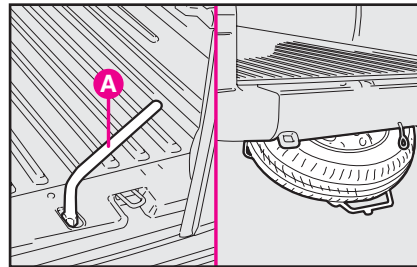
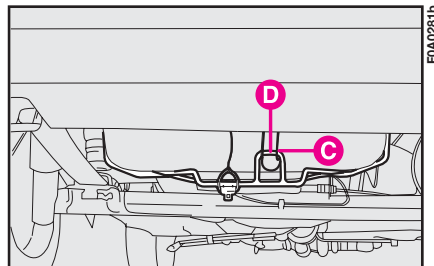
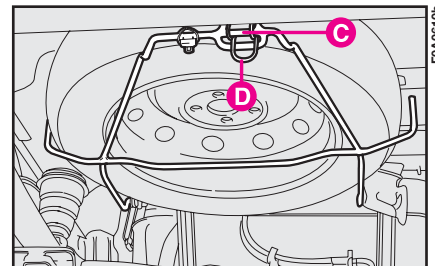

fig. 6
fig. 15
fig. 16
6) Loosen the bolt fastening the spare wheel with the wrench **A-fig. 6**.
2) Hook the top of support bracket **C**-fig. 15 to the anchoring ring **D** and tighten the support locking bolt fig. 6.
– hook the lower side of the support bracket **C-fig. 16** to the anchoring spring **D** and tighten the support bolt **fig. 6**.